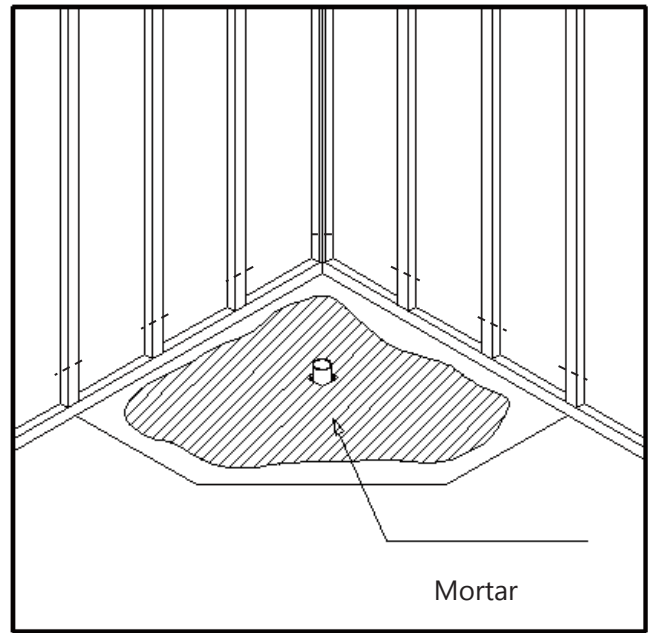

Fig. 5
- Apply a generous amount of mortar that has been mixed to a thick consistency. Place the base in the wet mortar, adjust until it is level, and let mortar cure for 24 hours. Proceed to the next step. (Fig 5)